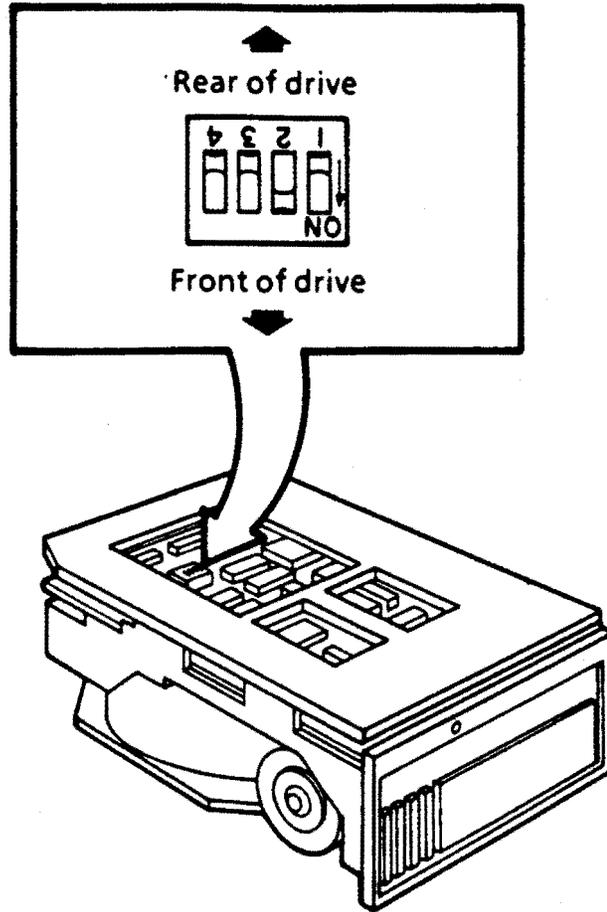

Figure 6-15: RD52 DIP Switches
2. Set the DIP switches as shown in Figure 6-15.